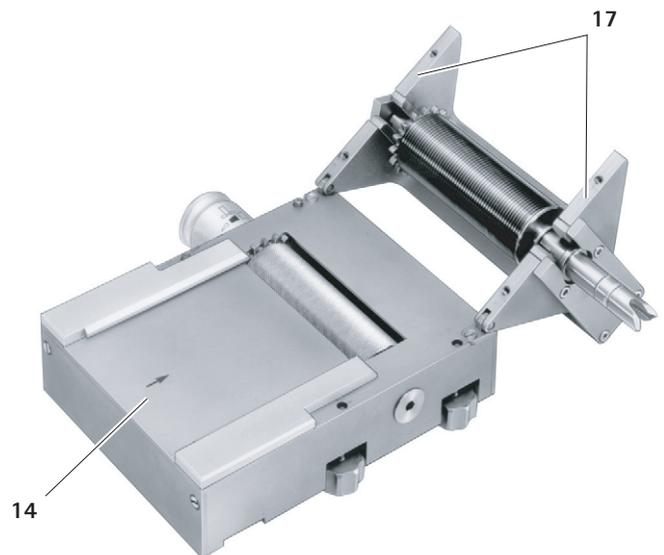

Fig. 2
- ▶ Open upper part 17, see Fig. 2.
- ▶ Close upper part **17** on lower part **14**, see Fig. 2.